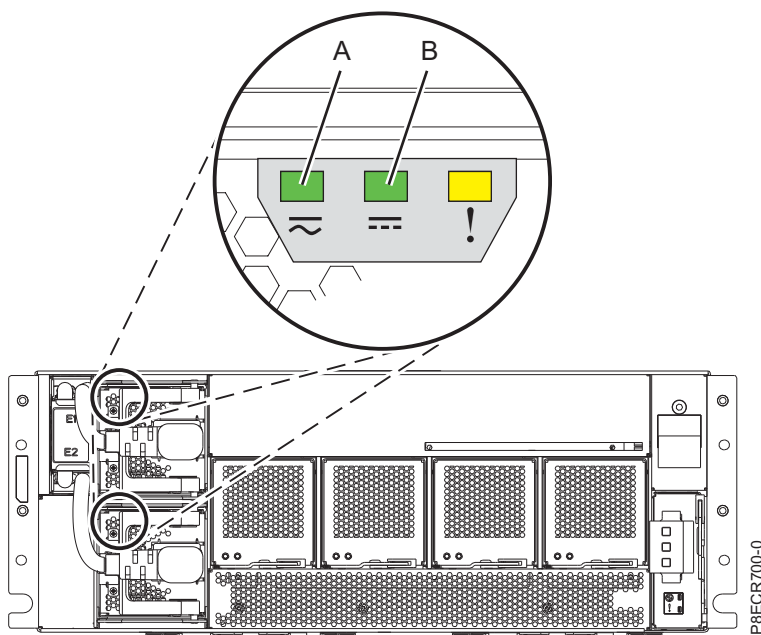

Figure 3. Power supply LEDs of an EMX0 PCIe3 expansion drawer
2. Ensure that the power supplies of the EMX0 PCIe3 expansion drawer are in standby. A power supply is in standby when the input power LED (A) is on solid and the output power LED (B) is flashing. See Figure 3.